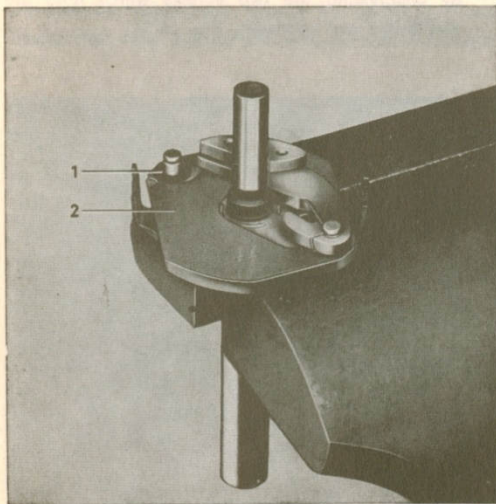
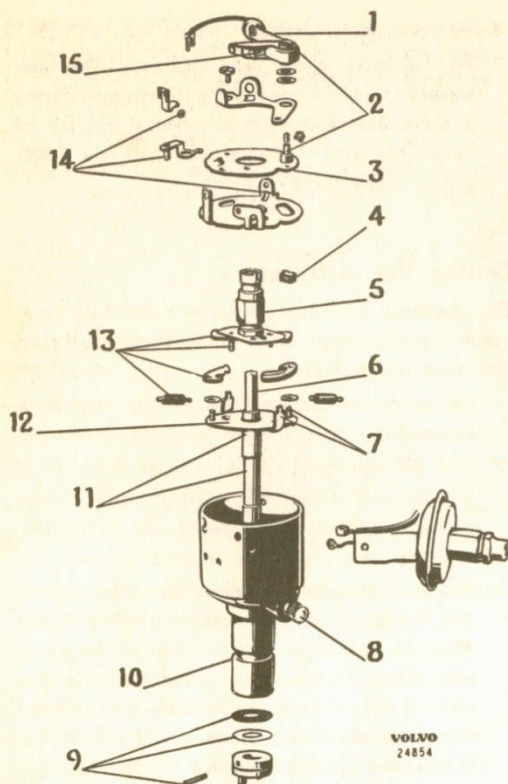

Fig. 10-56. Plate with fiber washers
Fig. 10-60. Lubricating scheme for distributor
must not be oval or otherwise deformed. The fiber washers, Fig. 10-56, must be intact.
1. Place the Resitex washer on the distributor shaft and the fiber washers over this, see Fig. 10-56. Lubricate and place the centrifugal regulator weights in position. Place on the locking springs. Concerning lubricating, see Fig. 10-60.